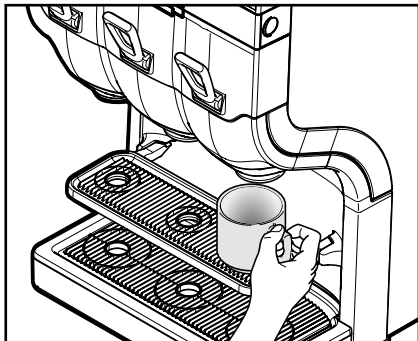

Fig. 11
- Place your cup on the cup tray (fig. 11).
1. Place your cup on the cup tray (fig. 11).